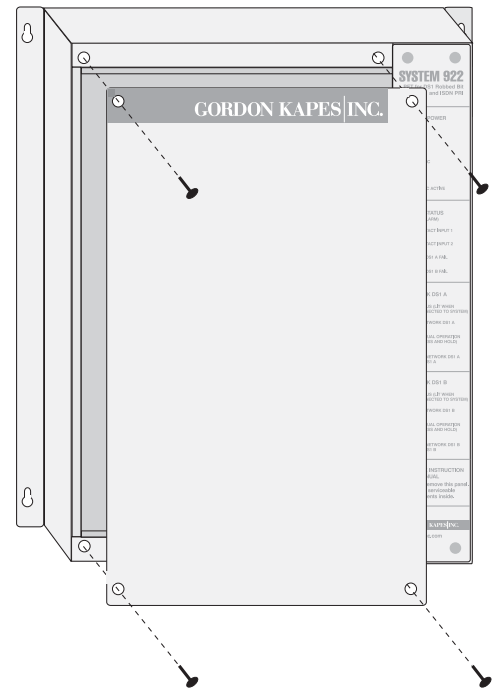

Figure 2-5. Removing the Front Cover
- ❑ As shown in Figure 2-5, remove the front cover from the System 922. This panel is held in place by four Phillips-head screws.